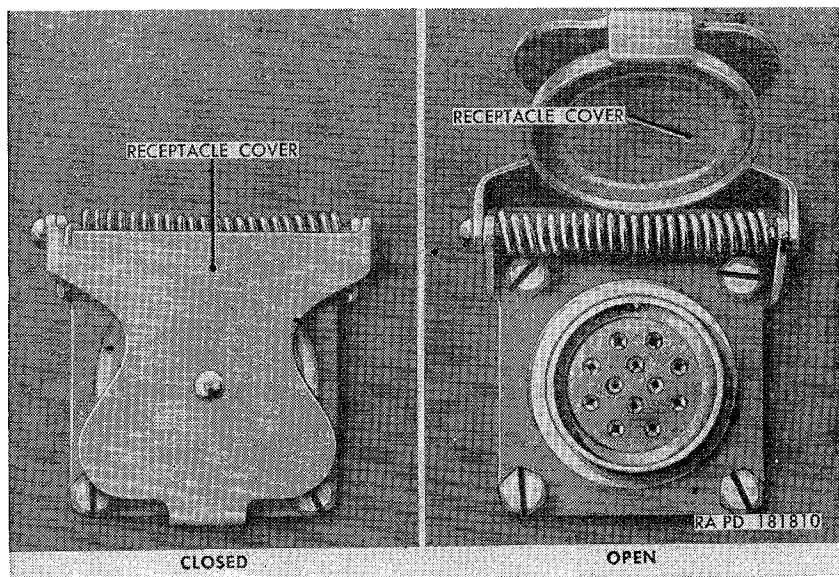

Figure 16. Trailer coupling electrical receptacle (M38A1).
*b. Trailer Coupling Electrical Connector Receptacle (M38A1)* (fig. 16). The trailer coupling electrical connector receptacle is located at the left rear corner of the body and the wiring is interconnected with the vehicle light switch. The light switch positions control the tail-lights on the trailer in the same manner as controlled on the vehicle